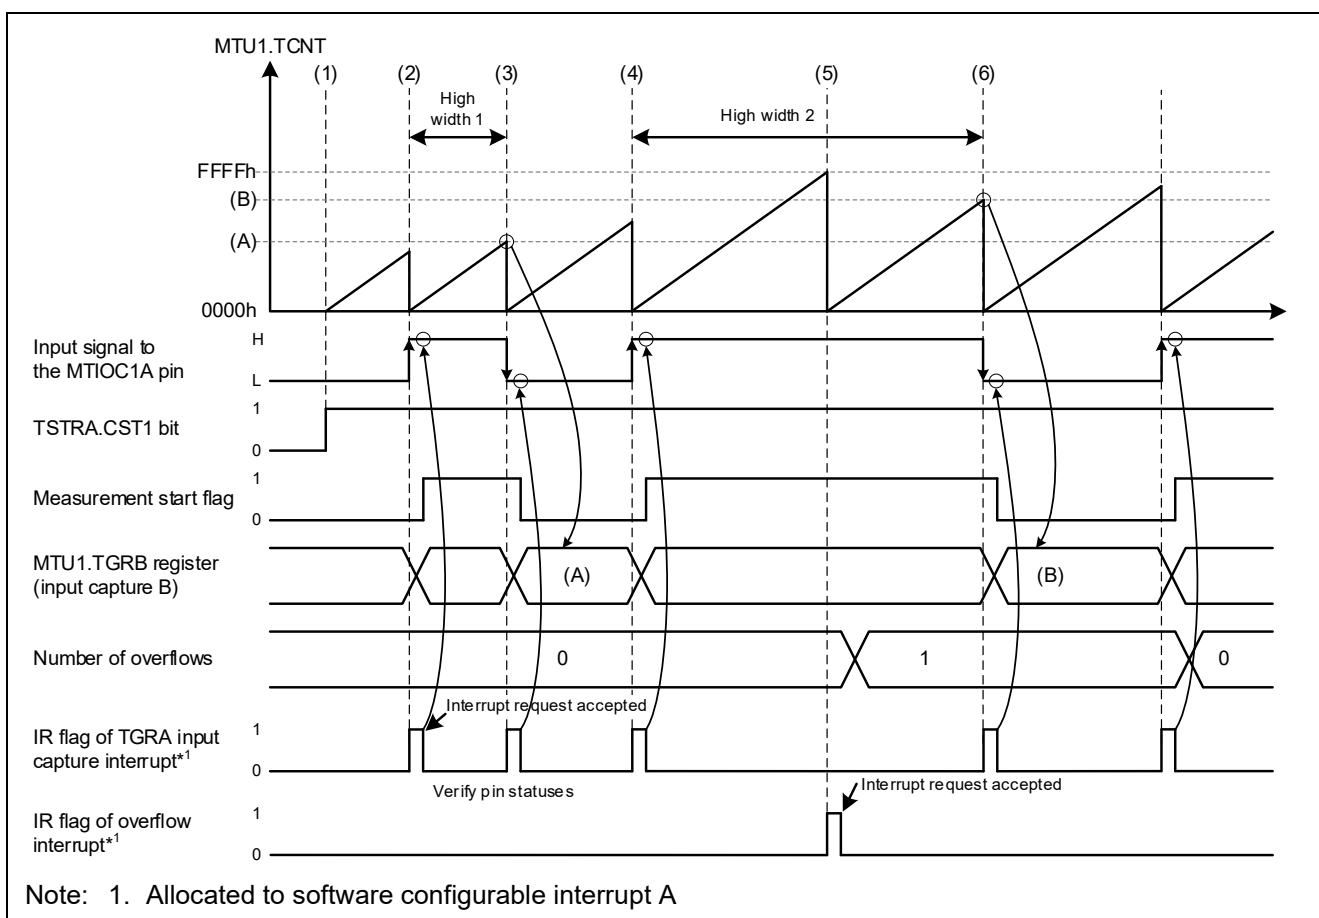

Figure 3.6 Sample Code Operations
- (1) When the TSTRA.CST1 bit is set to 1 (start counting), MTU1 starts counting.
- (2) When an edge is input to the MTIOC1A pin, the value of the MTU1.TCNT register is transferred to the MTU1.TGRA register and the counter is cleared. At the same time, an MTU1 input capture A interrupt request is generated. The input capture A interrupt processing checks the state of the MTIOC1A pin. If the pin is high, the sample code judges that high pulse measurement has started, sets the measurement start flag to 1 (measurement in progress), and clears the overflow count.
- (3) When an edge is input to the MTIOC1A pin again, an input capture A interrupt request of MTU1 is generated. The input capture A interrupt processing checks the state of the MTIOC1A pin. If the pin is low, the sample code judges that high pulse measurement has ended, calculates the pulse width (high width 1 in Figure 3.6) based on the number of overflows in the MTU1.TCNT register (0 in (3) in Figure 3.6) and the value in the MTU1.TGRA register ((A) in Figure 3.6). It also clears the measurement start flag.
- (4) When a rising edge is input to the MTIOC1A pin again, the same operation as (2) starts.
- (5) When the MTU1.TCNT register overflows, an overflow interrupt request is generated. The overflow interrupt processing counts the number of overflows.
- (6) When a falling edge is input to the MTIOC1A pin again, the same operation as (3) starts, and the sample code calculates the pulse width (high width 2 in Figure 3.6) based on the number of overflows in the MTU1.TCNT register (1 in (6) in Figure 3.6) and the value in the MTU1.TGRA register ((B) in Figure 3.6). It also clears the measurement start flag.